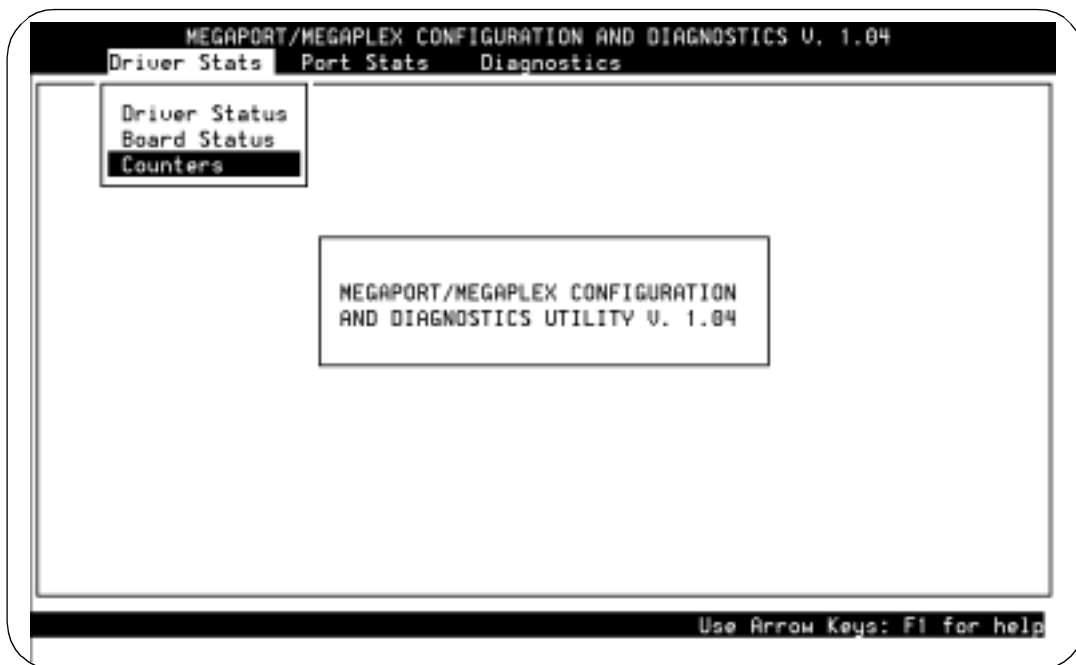

Figure 2-7. Megaport and Megaplex Configuration and Diagnostics Screen
The system displays the Megaport and Megaplex Configuration and Diagnostics screen (Figure 2-7).
- 1. Starting at the Megaport and Megaplex Configuration and Diagnostics screen (Figure 2-7).
1. Starting at the Megaport and Megaplex Configuration and Diagnostics screen (Figure 2-7).